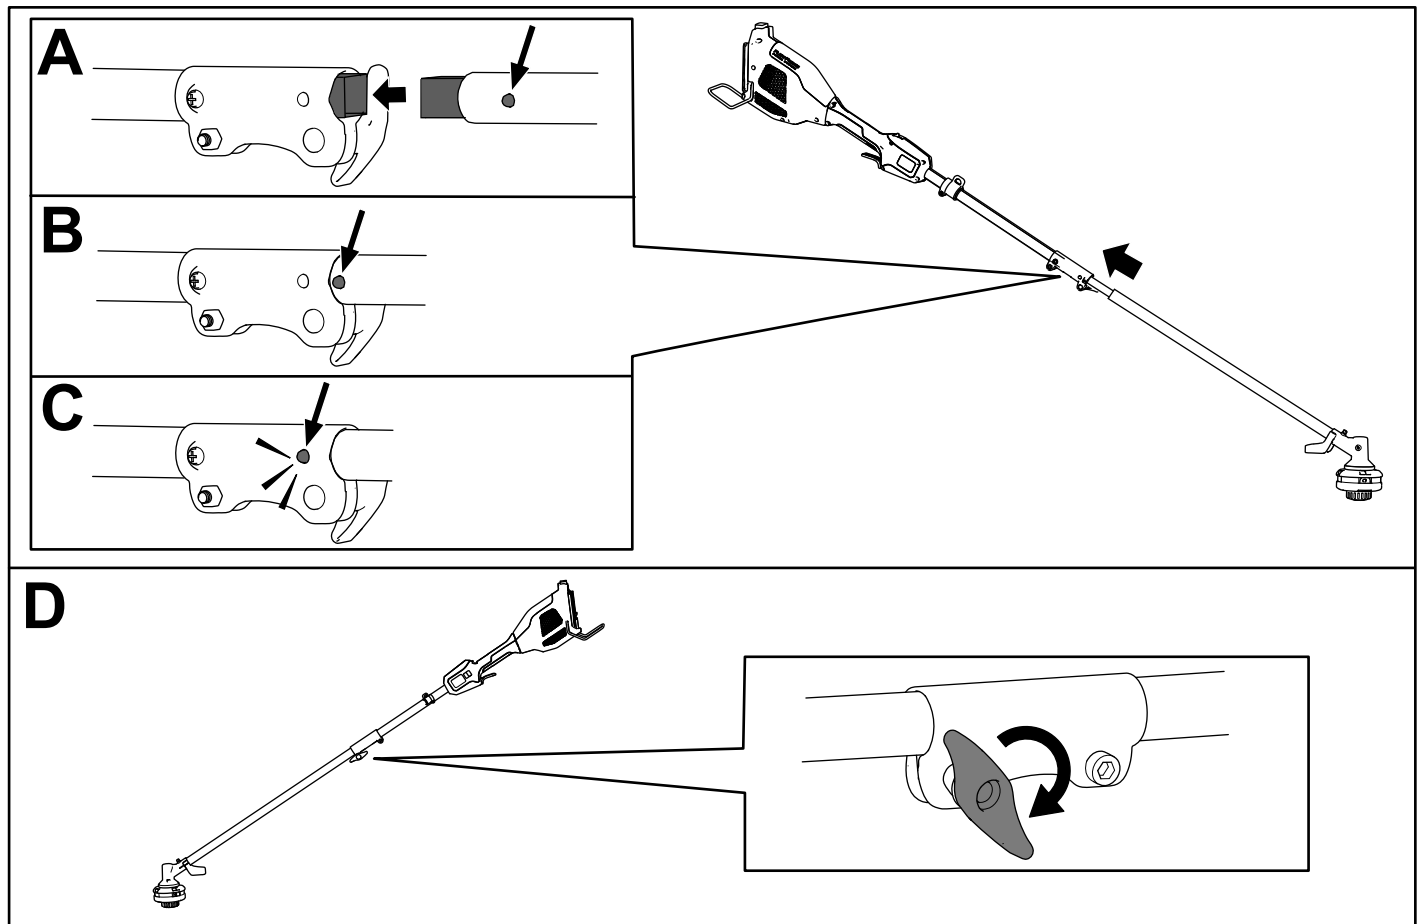

Figure 4
1. Install the square shaft of the string trimmer attachment into the square shaft of the power head (A of Figure 4).
2. Align the locking button on the lower shaft with the slotted hole on the upper shaft and slide the 2 shafts together (B and C of Figure 4).
**Note:** The locking button clicks into the slotted hole when the shafts are secured (C of Figure 4).
3. Using the screw-handle, tighten the screw on the shaft connector until it is secure (D of Figure 4).